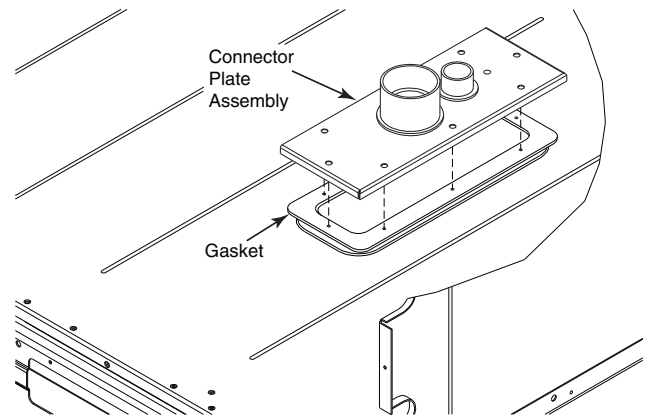

Fig. 33 — Completing Installation of Thru-the-Base Option
3. Place the gasket over the embossed area in the basepan, aligning the holes in the gasket to the holes in the basepan. See Fig. 33.